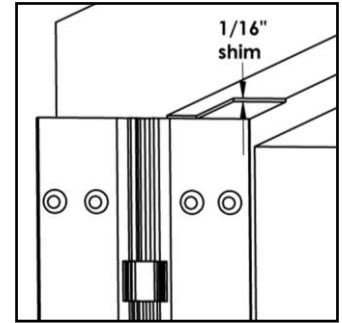

Fig. 1
1. With the hinge open, place the hinge frame leaf against the frame rabbet making certain that the alignment rib is flush against the frame face along its entire length. Position the top of the hinge $1/16"$ ($1/8"$ maximum) below the header. **Note: A $1/16"$ shim is recommended due to initial settling of the bearings.** (See Fig. 1)
4. Using the transfer punch, center punch both the mounting holes and the wire access hole. See Fig. 1. The middle hole is the wire access hole.